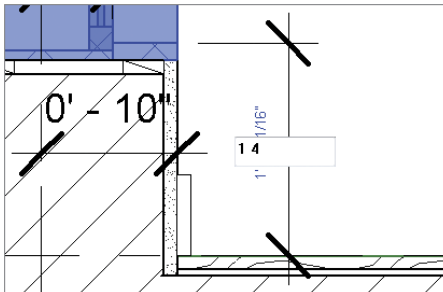

FIGURE 11.26 Entering a value into a dimension string
11. Select the blue text, and type 1' 4" (400 mm) in the text box (Figure 11.26). Press Enter. The window pushes up just a bit and resets the dimension string.